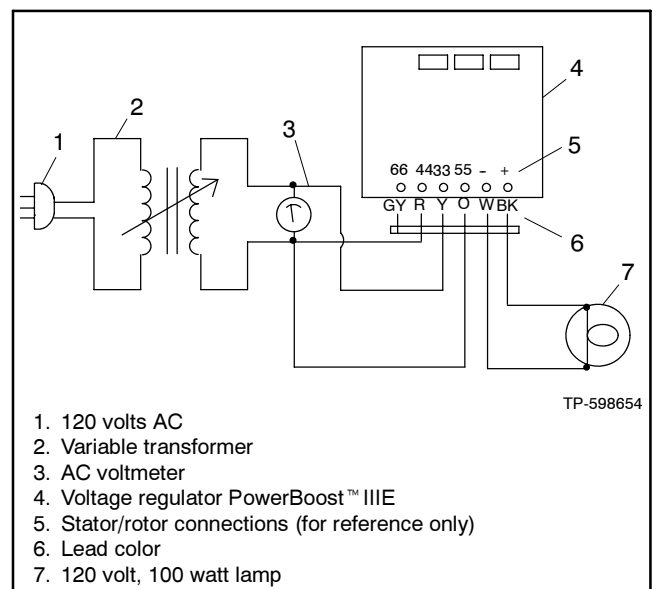

Figure 7-4 PowerBoost™ III E Voltage Regulator Test
1. Connect the components as shown in Figure 7-4.